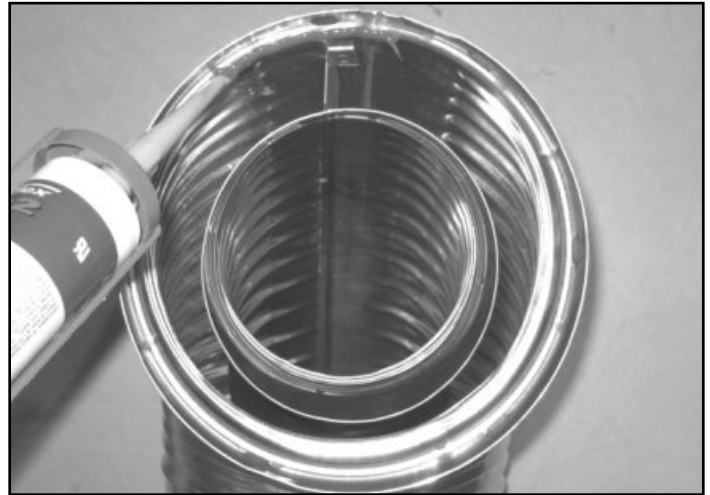

Figure 7.1 High Temperature Silicone Sealant
- Apply a bead of silicone sealant (300°F minimum continuous exposure rating) inside the female outer pipe joint prior to joining sections. See Figure 7.1.